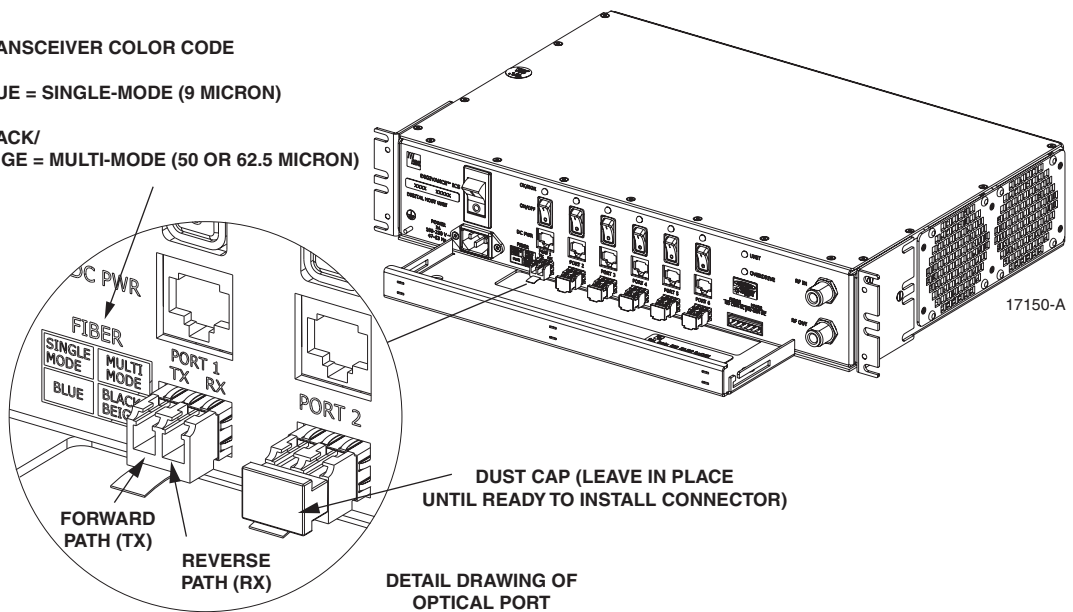

Figure 20. Optical Transceiver Designations
- **Note:** When viewing any **Port 1-6** optical transceiver from the front, the forward path port is on the left and the reverse path port is on the right as shown in Figure 20. In addition, single-mode transceivers are colored blue and multi-mode transceivers are colored black or beige. Both single- and multi-mode transceivers may be mounted on the same DHU.